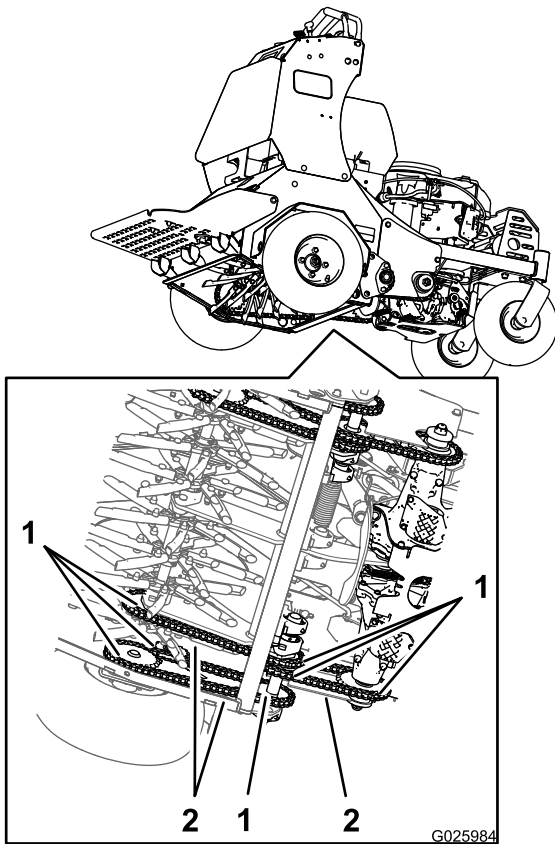

Figure 16
2. Inspect sprockets for wear and replace as required (Figure 16).
5. With the engine running, slowly move the traction-control levers forward and lubricate all six chains (Figure 16).
2. Check the chain tension (Figure 16) at both sides of the machine.